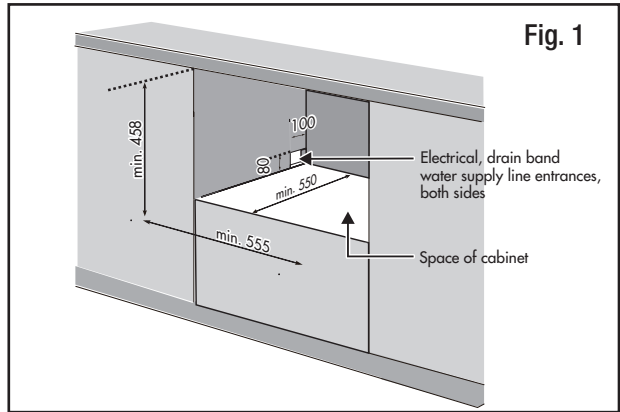
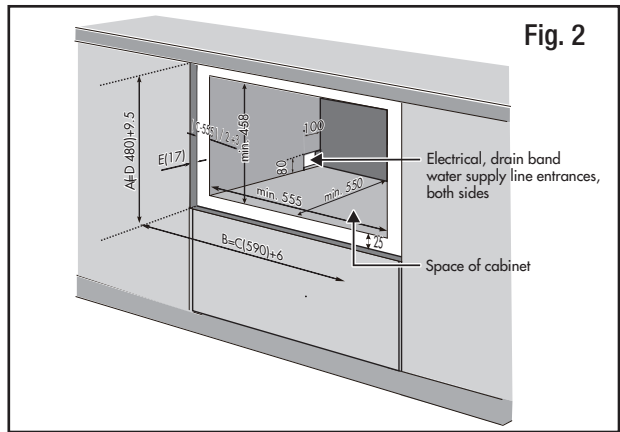

Fig. 1
Fig. 2
1. To install this unit into a cabinet, ensure that the aperture has the dimensions outlined below (Fig. 1 and Fig. 2).
Please note: all measurements in Fig. 1 - Fig. 8 are in mm.